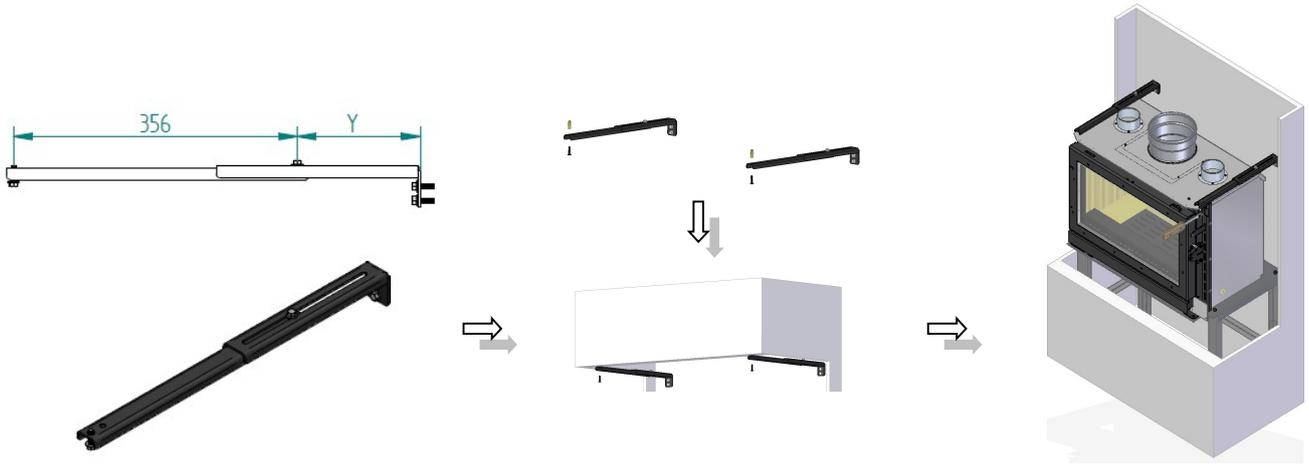

Figure 9 - Mounting the upper brackets - PA1090G053
8. To apply the upper supports, before attaching them to the wall, you should attach them outside according to the measure shown in Figure 9. The measure "Y" is the distance that the support will have to the wall fixing, this measure should be taken at the place to be installed in order to later tighten the fixing set.